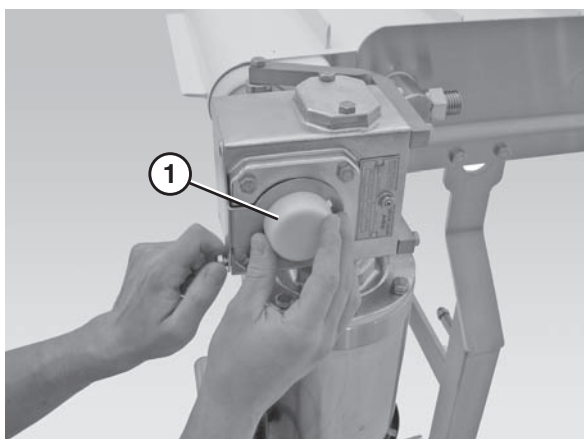

Figure 57
1. Remove the drive spindle cover (**Figure 57, item 1**).